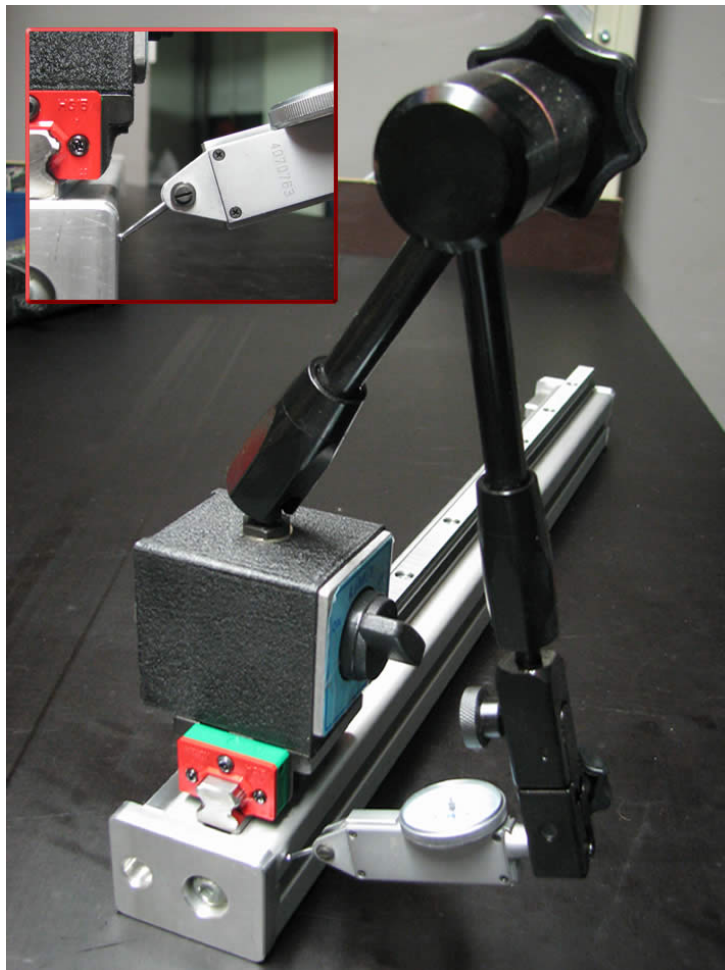

Figure 2.15: Align the rail using a dial gauge
- Place your magnetic stand on the Hiwin carriage, and set the dial gauge to 0.00 on the side of the 40x40L profile as shown in figure 2.15: